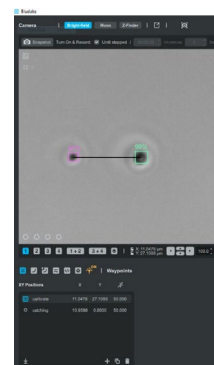

Figure 2
- Define a template for each bead and align Trap 1 at a 5 μm horizontal distance from Trap 2, keeping both beads on the same y-axis (Figure 2). Save this position as “tethering.”